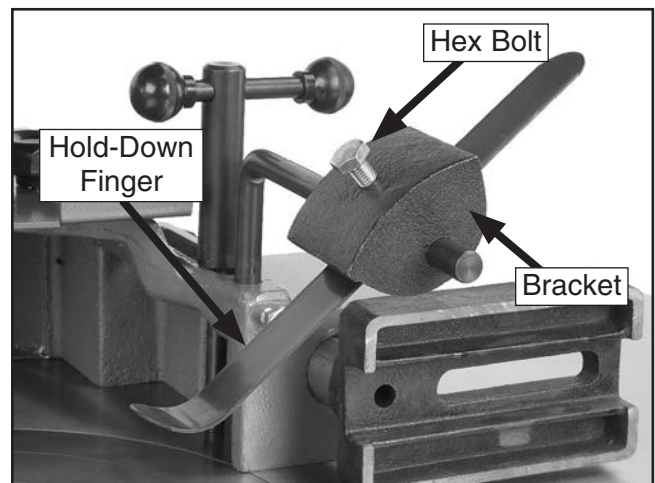

Figure 12. Vertical hold-down bracket and finger installed.
3. Slide these assemblies onto the hold-down bars and secure with the M10-1.5 x 40 hex bolts (see **Figure 12**).
Note: The direction of the vertical hold-down finger, as shown in **Figure 12**, is correct when the cutter is rotating **FORWARD** and the workpiece is passing the cutter from right-to-left.